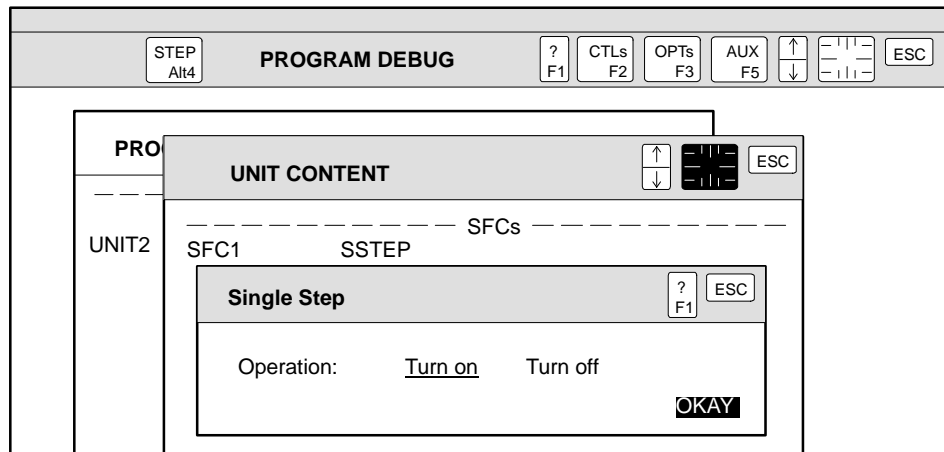

Figure 7-16 Using Single Step
1. Place the cursor on the SFC that you want to check, and press **Alt** **G**, or use the **OPTs** icon to select **Single Step**. The dialog window appears as shown in Figure 7-16.